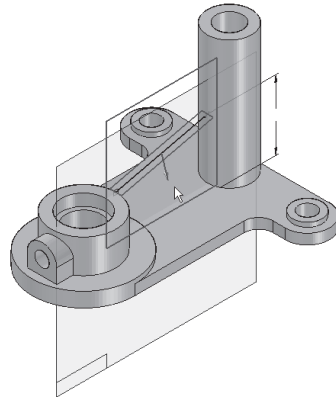

Figure 7-80 Specifying the direction of the rib
5. Enter **8** as the value in the **Thickness** edit box and specify the direction, as shown in Figure 7-80.